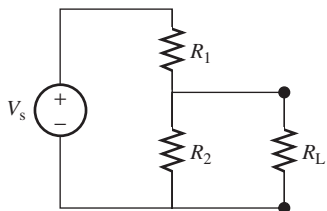

FIGURE P3.57 Circuit for Problem 3.57.
- 3.57 (A) Find the Thévenin/Norton equivalents for Figure P3.57.